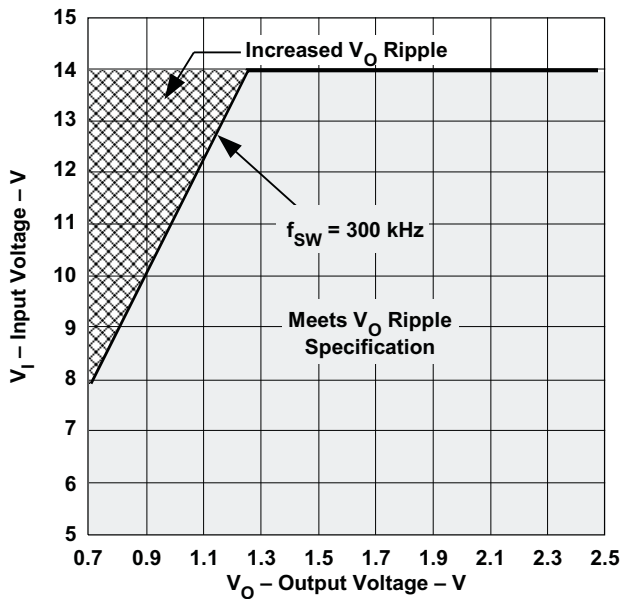
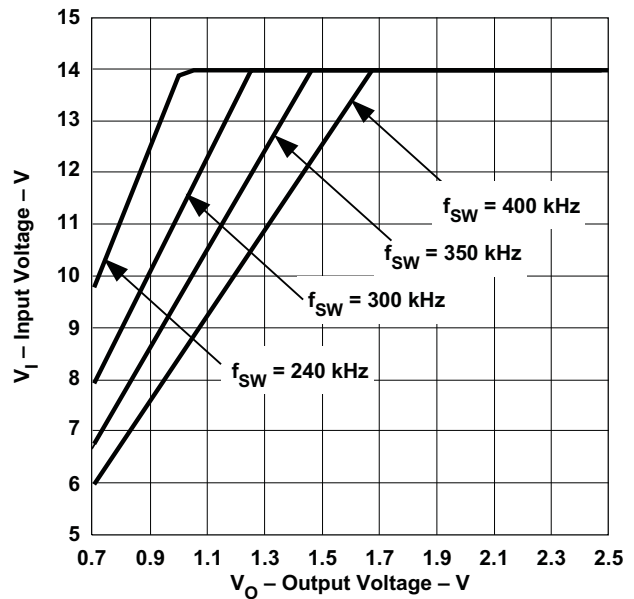

Figure 25.  $V_O$  Ripple Regions at 300 kHz
Figure 26.  $V_O$  Ripple Regions
Synchronizing to a higher frequency and operating with a low duty cycle may impact output voltage ripple. When operating at 300 kHz, Figure 25 shows the operating region where the output voltage ripple meets the electrical specifications and the operating region where the output voltage ripple may increase. Figure 26 shows the operating regions for several switching frequencies. For example, a module operating at 400 kHz and an output voltage of 1.2 V, the maximum input voltage that meets the output voltage ripple specification is 10 V. Exceeding 10 V may cause an increase in output voltage ripple. As shown in Figure 26, operating below 6 V allows operation down to the minimum output voltage over the entire synchronization frequency range without affecting the output voltage ripple. See the ELECTRICAL CHARACTERISTICS table for the synchronization frequency range limits.
- A. For Figure 25, operation above a given curve may cause the output voltage ripple to increase (typically  $2\times$ ).
- B. For Figure 25, when operating at the nominal switching frequency refer to the 300 kHz plot.